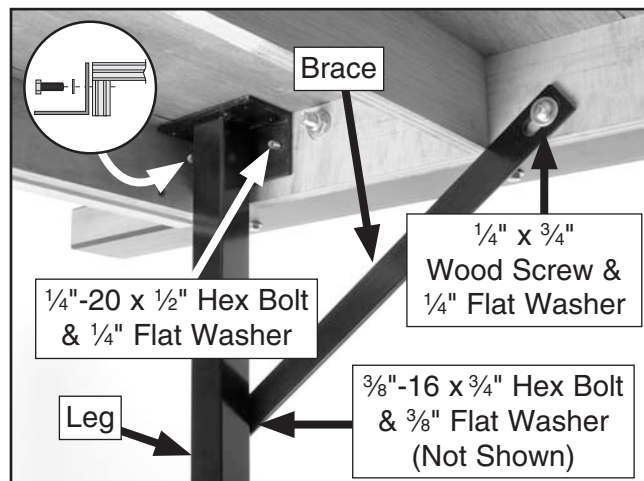

Figure 24. Leg and brace mounted.
3. Use the (4) $\frac{1}{4}$ "-20 x $\frac{1}{2}$ " hex bolts and $\frac{1}{4}$ " flat washers to fasten the legs to the underside corners of the extension table, as shown in **Figure 24**.
4. Use (2) $\frac{3}{8}$ "-16 x $\frac{3}{4}$ " hex bolts and $\frac{3}{8}$ " flat washers to loosely attach the braces to the legs. (These will be adjusted and fully tightened later.)
5. Use the (2) $\frac{1}{4}$ " x $\frac{3}{4}$ " wood screws and $\frac{1}{4}$ " flat washers to attach the braces to the extension table, as shown in **Figure 24**.